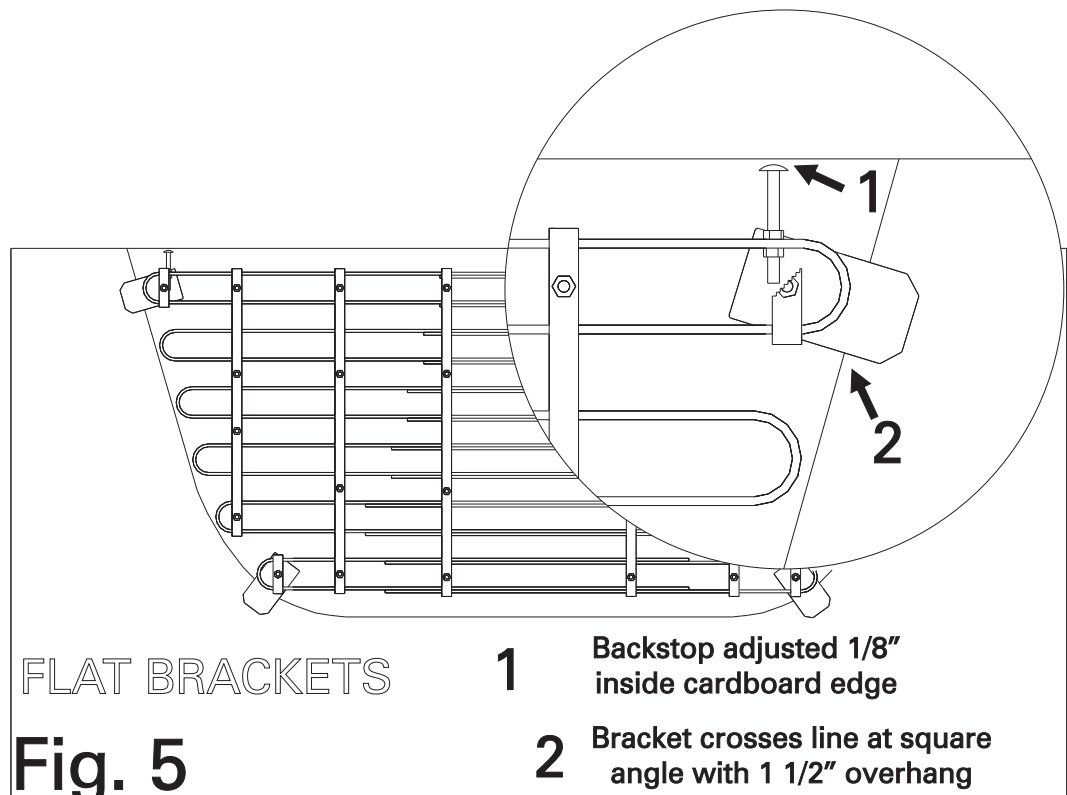

Fig. 5
9. **FLAT BRACKETS** If grate is to be used on a precast concrete, wood or a well in a patio area then remove all pegs with a Phillips screwdriver. Reposition Adjust-A-Grate in template, if space between back of grate and rear edge of cardboard exceeds 3/4" then adjustable backstops (supplied) need to be installed (if not proceed to 9A). Run nuts partway up each backstop bolt, insert bolts thru holes in back loops, install nuts on inside of loops. Rear brackets should be slid out of way or partially removed to gain access to inside of loops. End of backstop (bolt head) should be adjusted out to about 1/8" inside back edge of cardboard (SEE FIG. 5).
9A. Extend each flat bracket out across line at 90 degree (square) angle about 1 1/2" (as far as it goes) then tighten bolt (SEE FIG. 5). Holes left in brackets by removal of pegs may be filled by tapping aluminum plugs (supplied) in from top of grate after Adjust-A-Grate is installed.